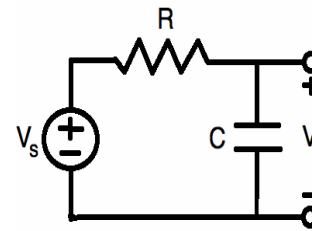

Figure 3A: Simple R-C Circuit
When you connect a capacitor to a battery, it charges up instantly. However, there many times when we want to charge and discharge rate of a capacitor. For example, vehicles use a pre-charge circuit that slowly lets voltage the motor before the driver accelerates so it doesn't burn other components. Figure 3A shows such a circuit. There that is in series with the capacitor. The resistor is used to flow of electrons from the battery as they enter the slows down the charging time of the capacitor. This type of circuit is also used in electronic filters as we will see shortly.
We have seen how resistors are used to control current flow. By adding the resistor in series with my capacitor (C) in Figure 3A, it slows down the flow of the current and creates a delay so it will take a bit of time to charge the capacitor.
If I removed the battery in Figure 3A and replaced it with a switch, I could discharge the capacitor by closing the switch and allowing current to dissipate through the resistor. It would take the same amount of time to discharge the capacitor through my resistor as it took to charge it in the first place. So, after 11 seconds, the capacitor would be out of energy.